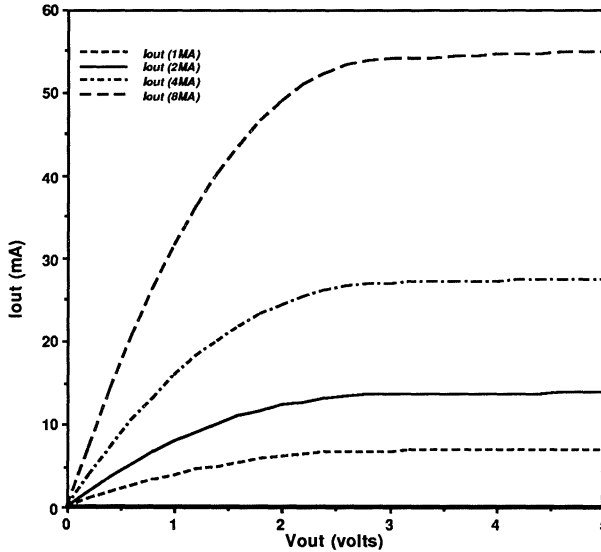
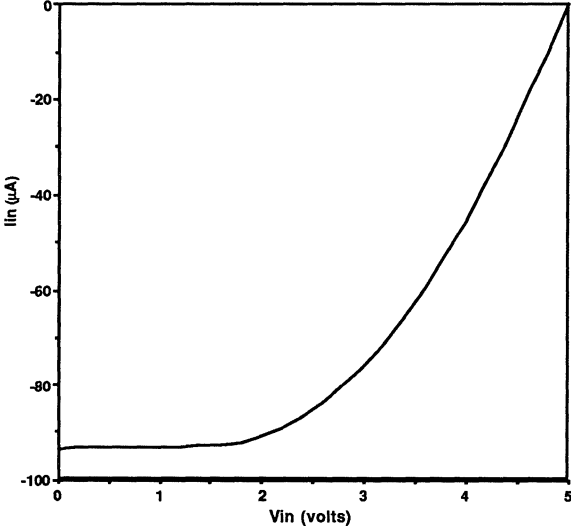

Figure 1: Typical TTL and CMOS N-Channel Driver DC Characteristics
Figure 3: Typical Input Pull-up DC Characteristics
2.1.2 Figures 1 and 2 show typical current voltage curves for the pad driver transistors from 1 mA to 8 mA. References to typical means the data was characterized for $T_j = 25$ degrees C, $v_{dd} = 5$ volts, and typical (nominal) process. Figures 3 and 4 show the typical current voltage curves for input pads with pull-up and pull-down devices.
2.1.3 Figure 8 and Tables 4 and 5 show derating factors for the current due to temperature voltage and process. Values are normalized to typical conditions. To obtain a current value at conditions other than typical, multiply the derating factors corresponding to those conditions to the current values from the curves in figures 1 through 4, i.e. $K_{TDC} * K_{VDC} * K_{PDC} * I_{DC}$.